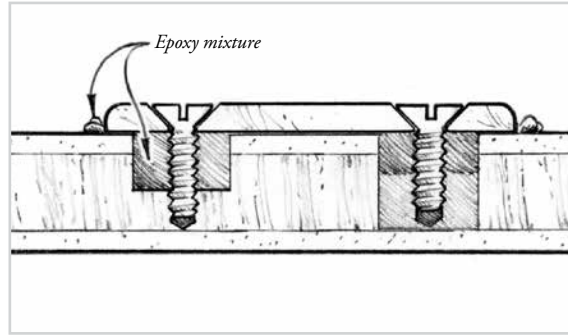

Figure 7-6 Tighten the fasteners until a small amount of epoxy squeezes out of the joint.
8. Place the hardware item in position. Insert and tighten the fasteners until a small amount of epoxy squeezes out of the joint. Do not over tighten (Figure 7-6).